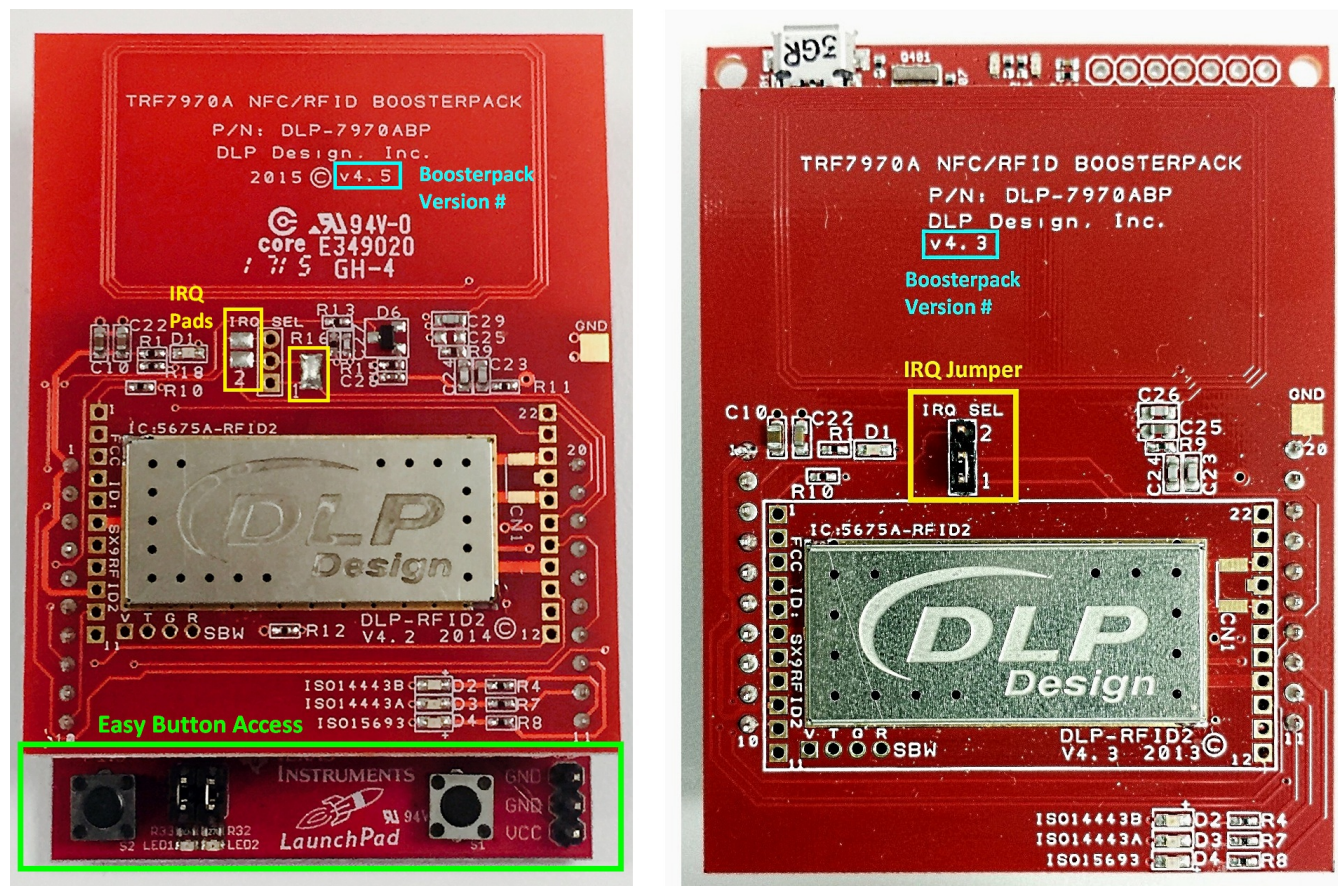

Figure 1. Comparison of New (Left, v4.5) and Old (Right, v4.3) DLP-7970ABP BoosterPack Boards
The easiest way to determine if this document applies for a certain BoosterPack is to check the version number for the BoosterPack (highlighted by the light blue box in Figure 1). The modified design for the DLP-7970ABP applies for version 4.5 (v4.5) and newer. This guide does not apply for v4.4 or older. Alternatively, the new BoosterPack no longer covers the LaunchPad™ development kit buttons as seen in Figure 1 (highlighted by the green box) when attached to the top of a LaunchPad.
- The IRQ header has been removed to make it easier for users to interact with the BoosterPack antenna when using other NFC/RFID devices such as personal handsets or other development kits. 0-Ω resistors can be used instead to switch between the IRQ lines while providing a lower profile (highlighted by the yellow box in Figure 1).
The IRQ line defaults to pin 18 on all new BoosterPack kits. The routing of the IRQ line can be changed to pin 8 by resoldering the IRQ pads (boxed in yellow in Figure 1).